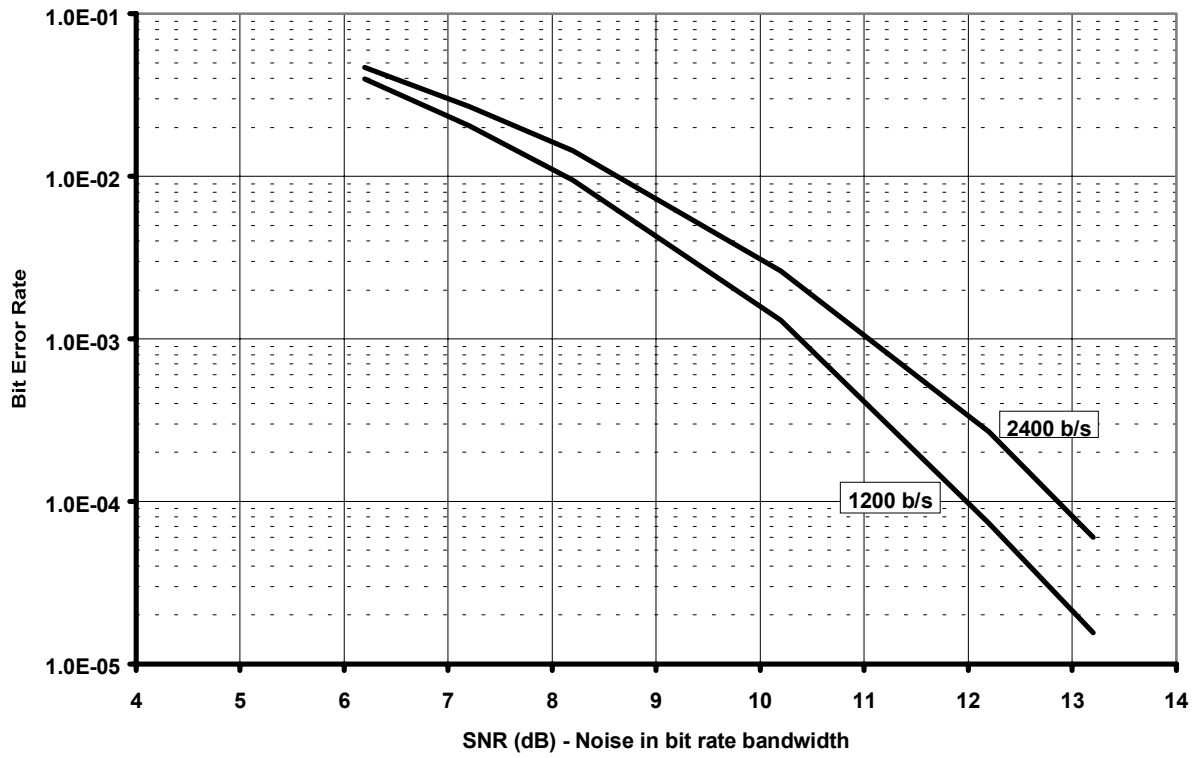

Figure 15 Typical FFSK/MSK Bit Error Rate Graph
54	V _{DD(A)} = 3.0V, for a "101010101 ... 01" pattern measured at the input amplifier feedback pin (12). Signal level scales with V _{DD(A)} . See Figure 15 for variation of BER with SNR.